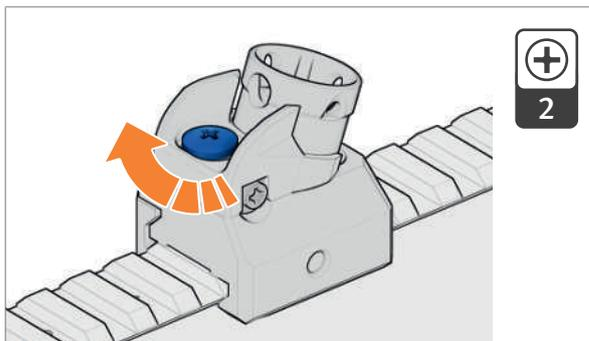

Fig. 85: Tighten the locking screw
3. Tighten the locking screw clockwise with a screwdriver. (Fig. 85).